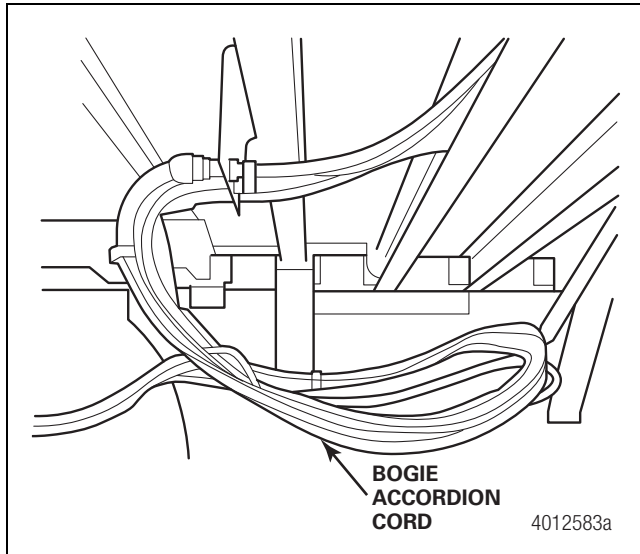
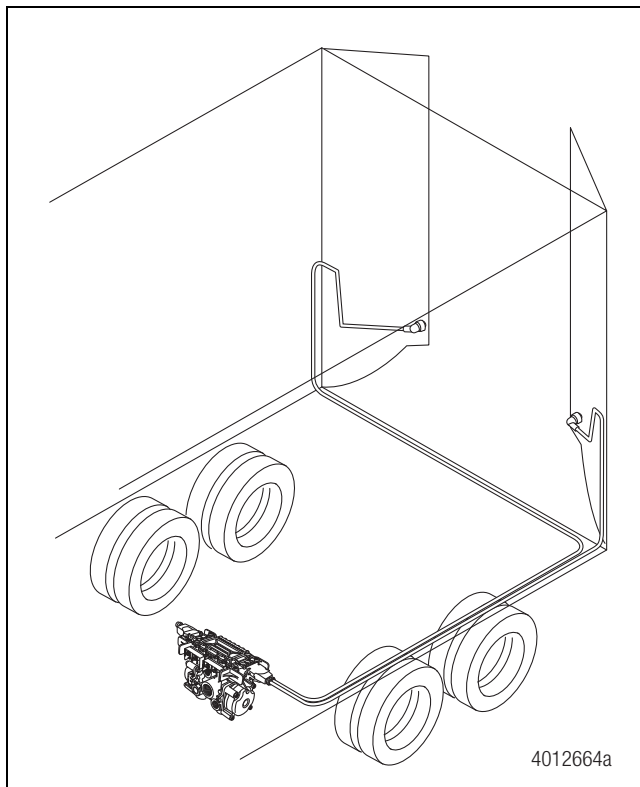

Figure 3
Figure 4
- For slider applications, route the cable down the bogie accordion cord, then over to one side of the trailer as shown in Figure 3. Route the cable harness down the length of the trailer starting at the ABS unit, running the cable towards the rear of the trailer. Figure 4. The ends of the cable split into curb side and street side latch connectors. Use zip ties along the accordion cord as needed to secure the cable.